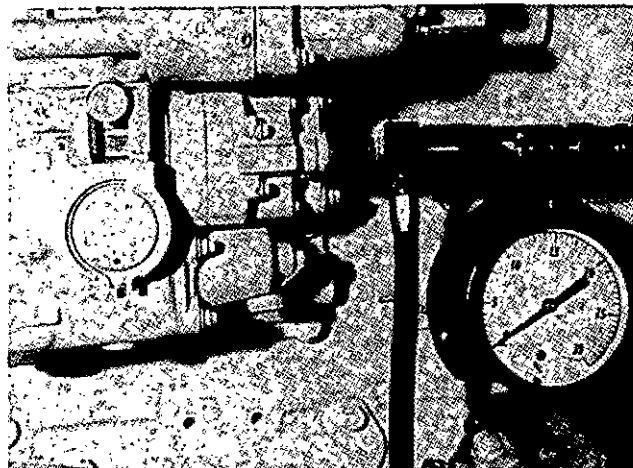

Fig. 17-6, (F5180). Check the fuel restriction.
1. The fuel filter restriction can be checked using ST-434 Vacuum Gauge, Fig. 17-6.